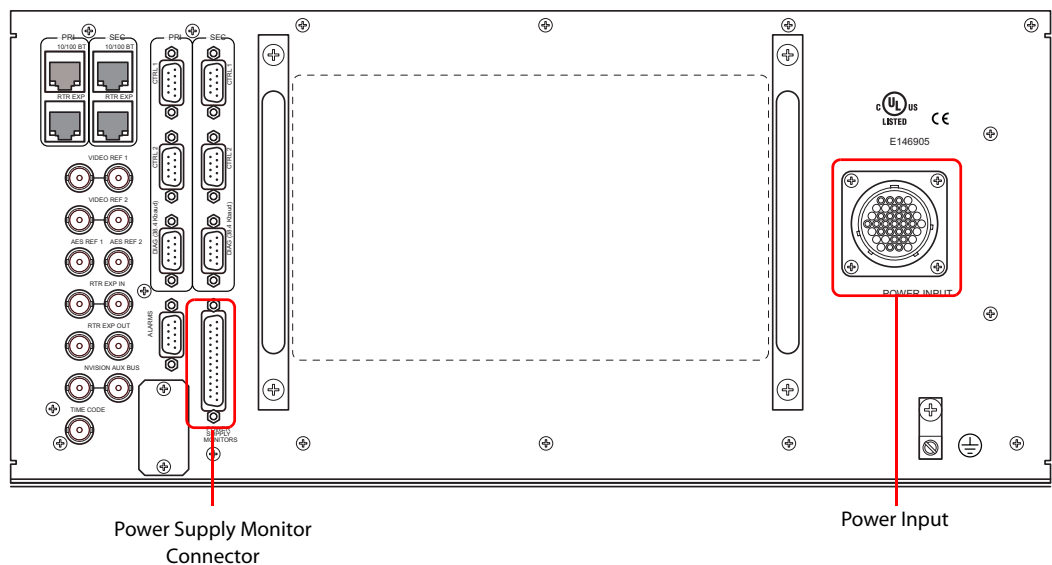

Figure 2-32. NV8280 Power Supply Monitor and Power Supply Connections
- 3 Facing the rear of the **router**, connect the other end of the power cable to 'Power Input 1', as shown in Figure 2-32.